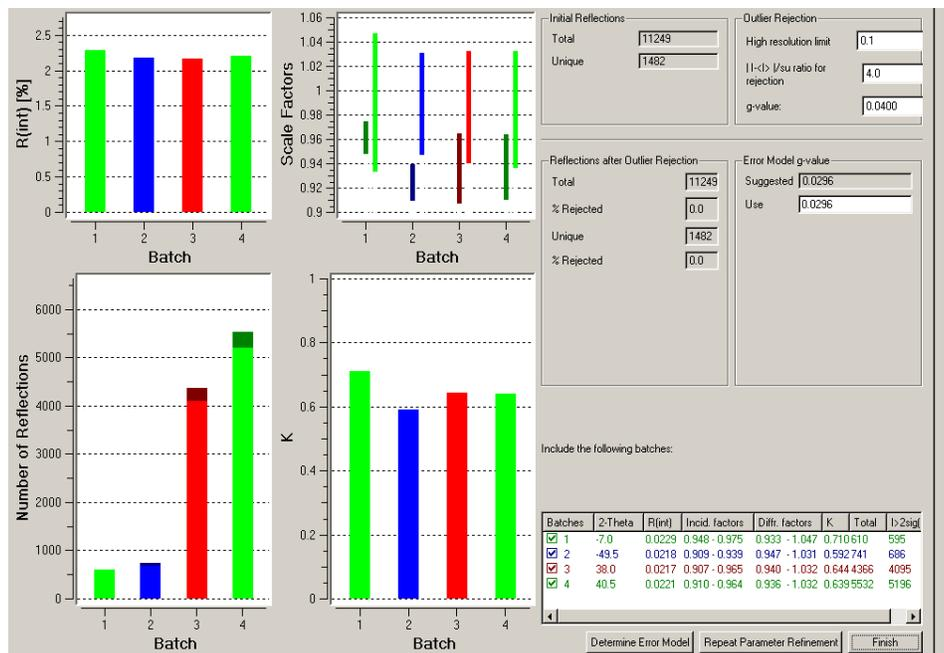

Figure 7.22 – Error Model results
1. Click **Next** to proceed to the Error Model tab, and click **Determine Error Model**. Figure 7.22 shows typical Error Model results.